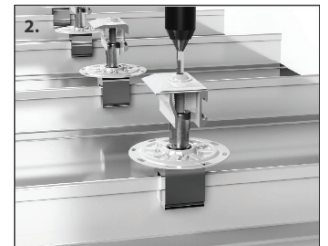

Figure 2
- 2. Mount the PV Disks and the EdgeGrab/StandOff Assembly to the first row of clamps:** place the PV Disk atop the clamp and thread the Male Portion of the StandOff through the disk and into the clamp. Drive the EdgeGrab/StandOff Assembly down with provided Bit Tip (Fig. 2) until the base of the StandOff seats the disk in place and breaks the thread locking seal between the StandOff and Low Profile Bolt. Leave the grab up, to allow space for a module frame. A 1/2" open end wrench can be used to further tighten the StandOff atop the disk if desired.